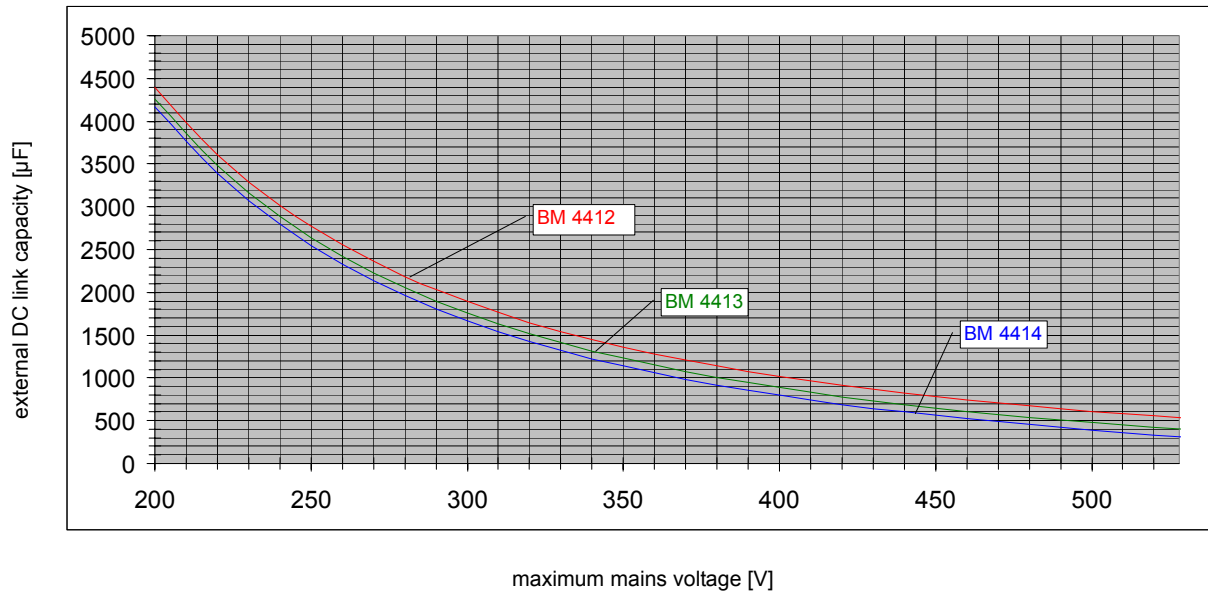

Figure 61: Maximum external DC link capacity BM441X
| DC link capacity (external), permitted                                   |                        | see ►Figure 61◄ on page 170 |            |
| DC link capacity (external), permitted                                   |                        | see ►Figure 61◄ on page 170 |                            |
11) The specified value is only valid, if there is no additional DC link capacity connected to the DC link terminals. Also see ►Mains-switch-on frequency/DC-link charging◄ on page 97 and ►Figure 61◄ on page 170.